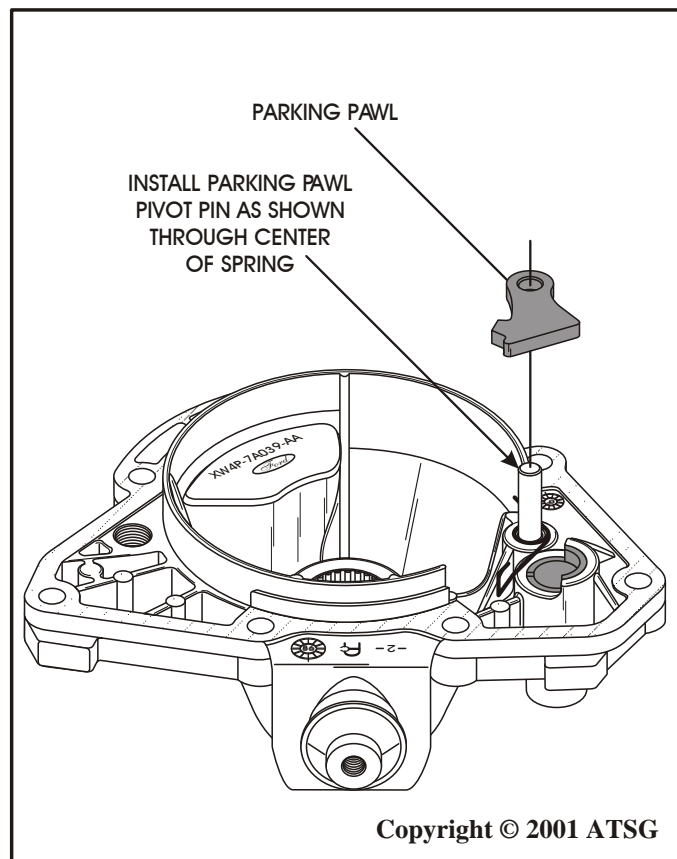

Figure 137
6. Install the parking pawl pivot pin through the center of return spring, as shown in Figure 137.